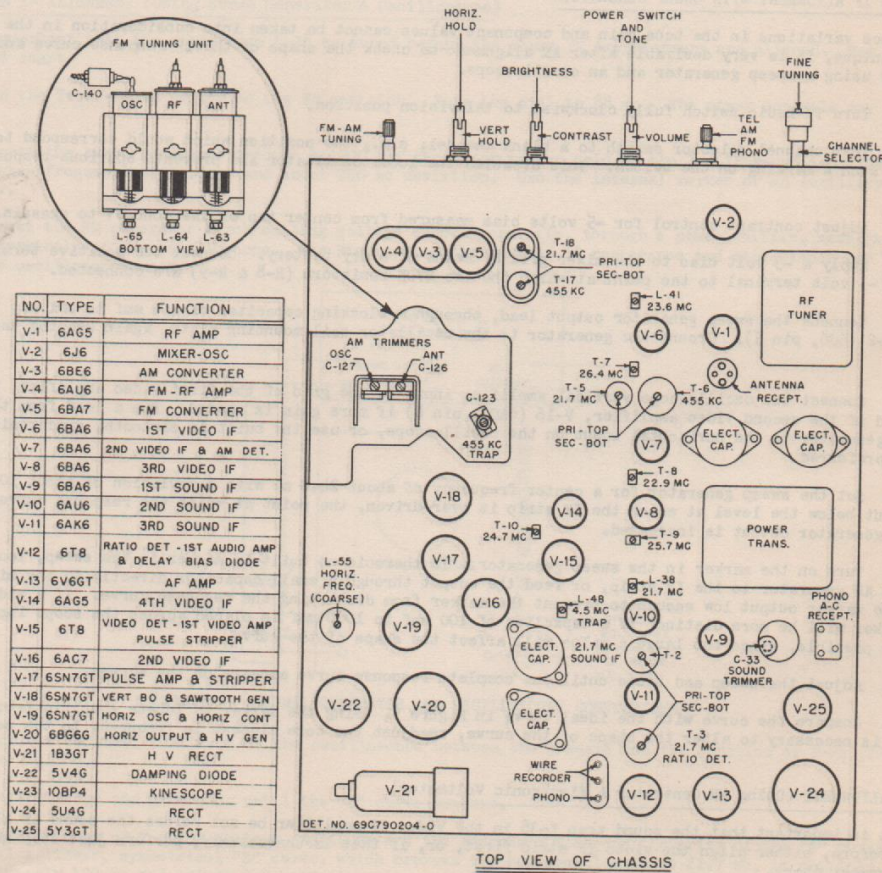

FIGURE 4. I.F. ADJUSTMENTS AND TUBE LOCATIONS
8. Refer to Figure 4 for the locations of the alignment adjustments and to the following chart for procedure.